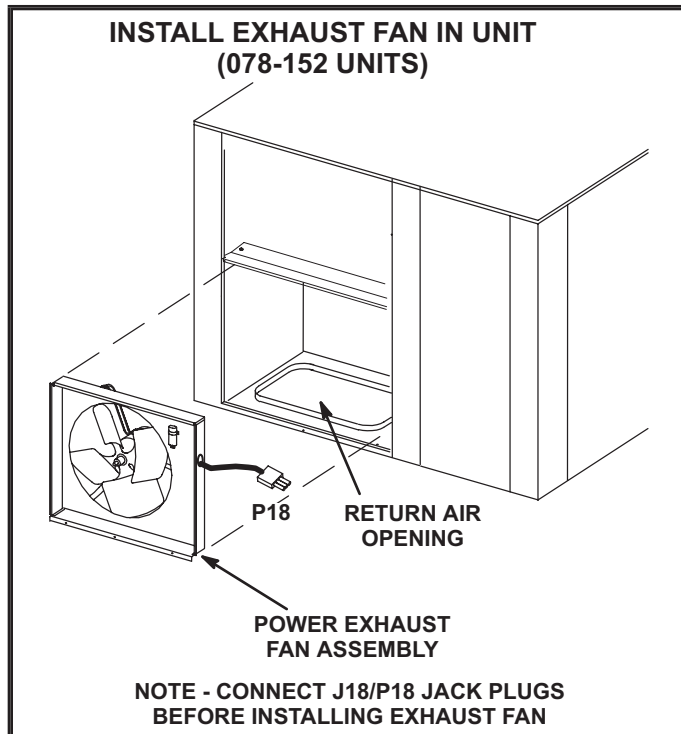
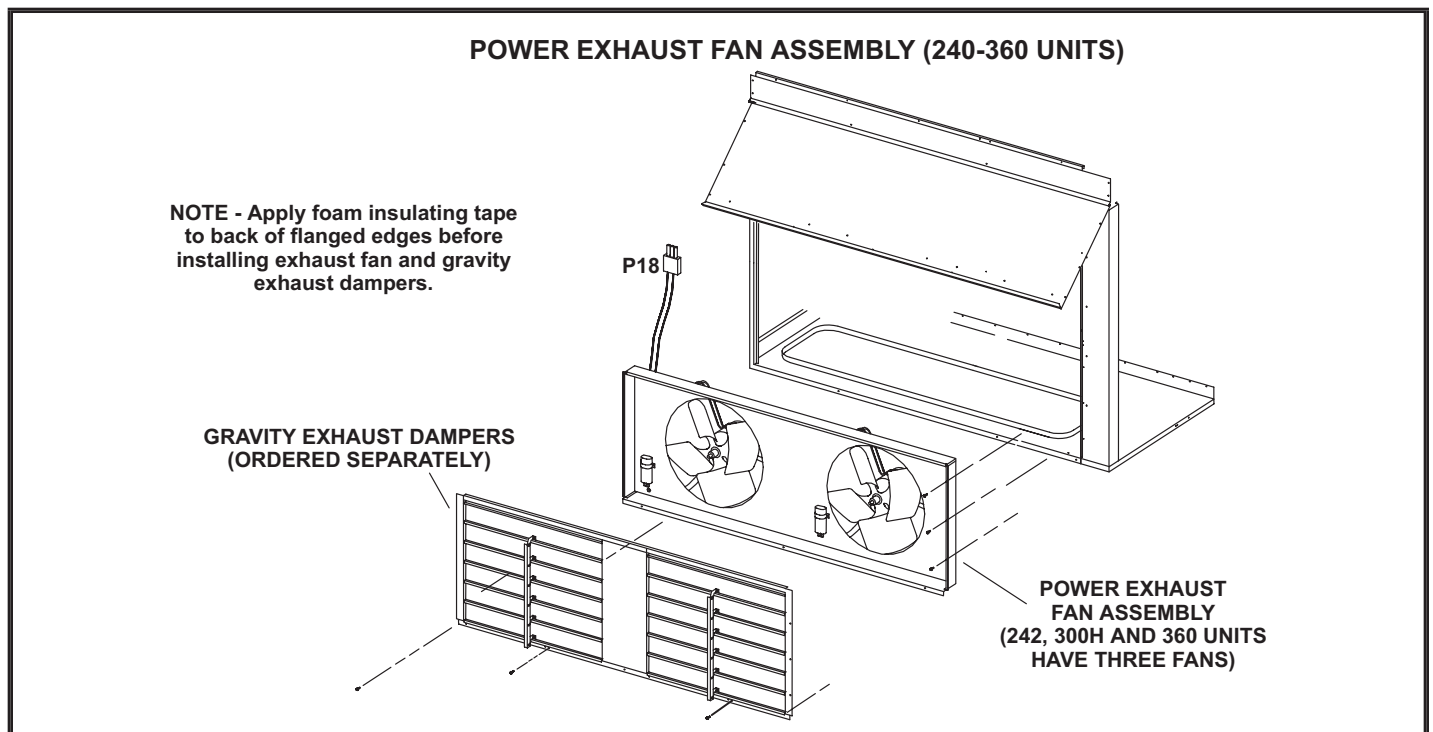

FIGURE 15
FIGURE 17
078-152 Units (refer to FIGURE 15)
- 4 - Reach through fan orifice and connect power exhaust fan P18 plug to unit J18 jack. J18 is located on the left side underneath the fresh/exhaust air divider panel. See FIGURE 17.
- 1 - Lift the fan assembly into the opening and insert the top side first. Align the top of the assembly inside the flange on the division panel. Secure the bottom of the assembly to the unit with screws provided. See FIGURE 15 for 078-152 units and FIGURE 17 for 240/360 units.